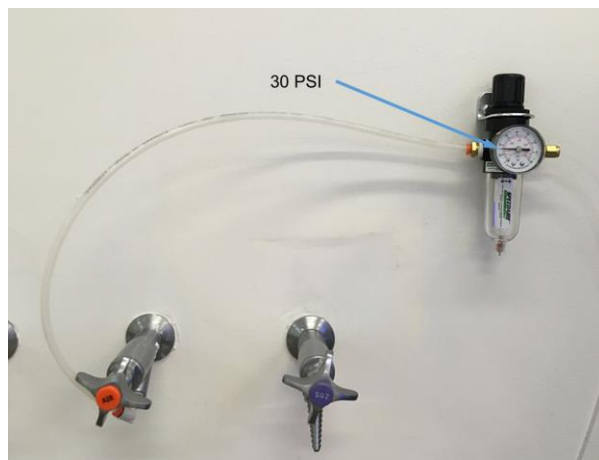

Figure 3: Wall mounted gas regulator. **Note that this should never normally need adjusted.**
- The wall mounted regulator should read 30 psi (Figure 3)